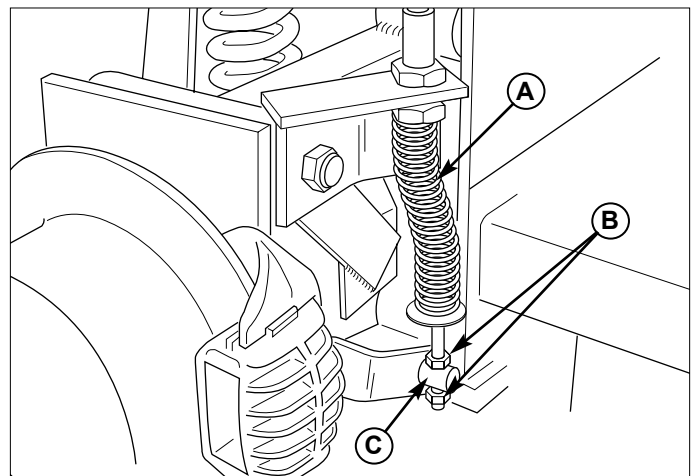

Figure 22. Parking Brake Adjustment
6. Locate the lower brake spring (A, Figure 22), adjustment nuts (B, Figure 22) and adjustment link (C, Figure 22).
7. Release the parking brake and turn the adjustment nuts to compress or release the upper spring. Lock the nuts against the adjustment link (C, Figure 22).